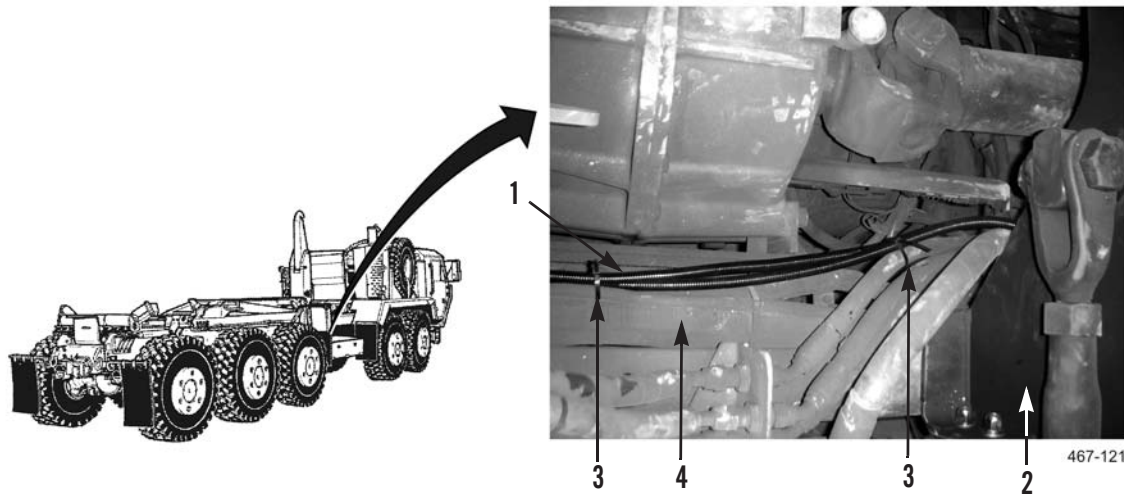

Figure 29. Middle Frame and Hook Arm Harness Installation.
19. Route middle frame sensor and hook arm sensor harnesses (Figure 29, Item 1) from stowage assembly (Figure 29, Item 2), along inside of right side of frame (Figure 29, Item 4) to rear of main frame.
20. Install new tiedown straps (Figure 29, Item 3) as required to attach middle frame and hook arm sensor harnesses (Figure 29, Item 1) to existing hoses along frame.